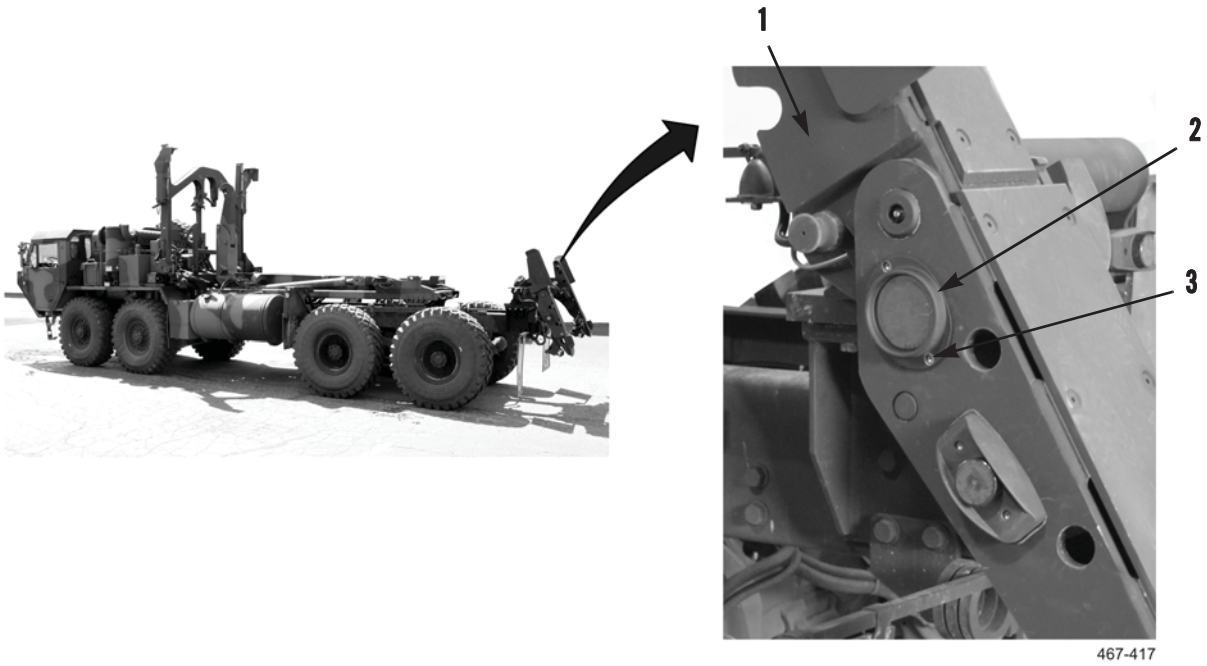

Figure 5. Reflector Installation.
8. Install reflector (Figure 5, Item 2) and two screws (Figure 5, Item 3) on slider assembly (Figure 5, Item 1).